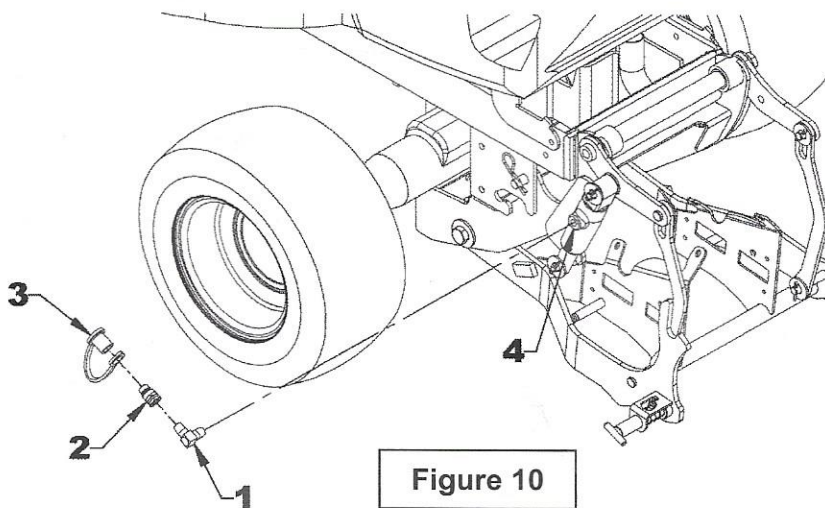

Figure 10
6. **Figure 10, item 3:** Install the dust cap on the 1/4"NPT male quick coupler of the cylinder elbow.